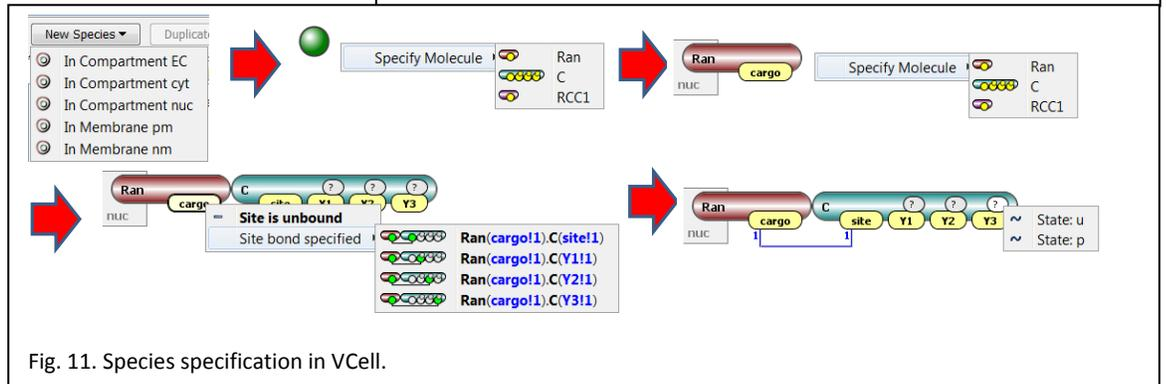

Fig. 11. Species specification in VCell.
2. Create one or more Species (Fig 11).